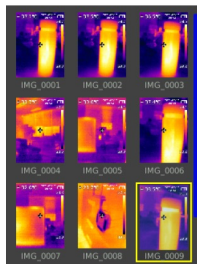

Fig. 27
3. Use the $\langle$ and $\rangle$ buttons to scroll through the list of saved images if applicable (Fig. 27).